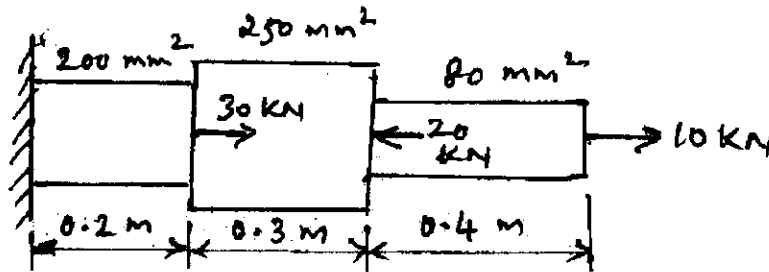

Fig.Q.1(c)
- c. A stepped bar is subjected to forces as shown in Fig.Q.1(c). Determine the net deformation in the stepped bar. Take $E = 2 \times 10^5 \text{ N/mm}^2$. (07 Marks)